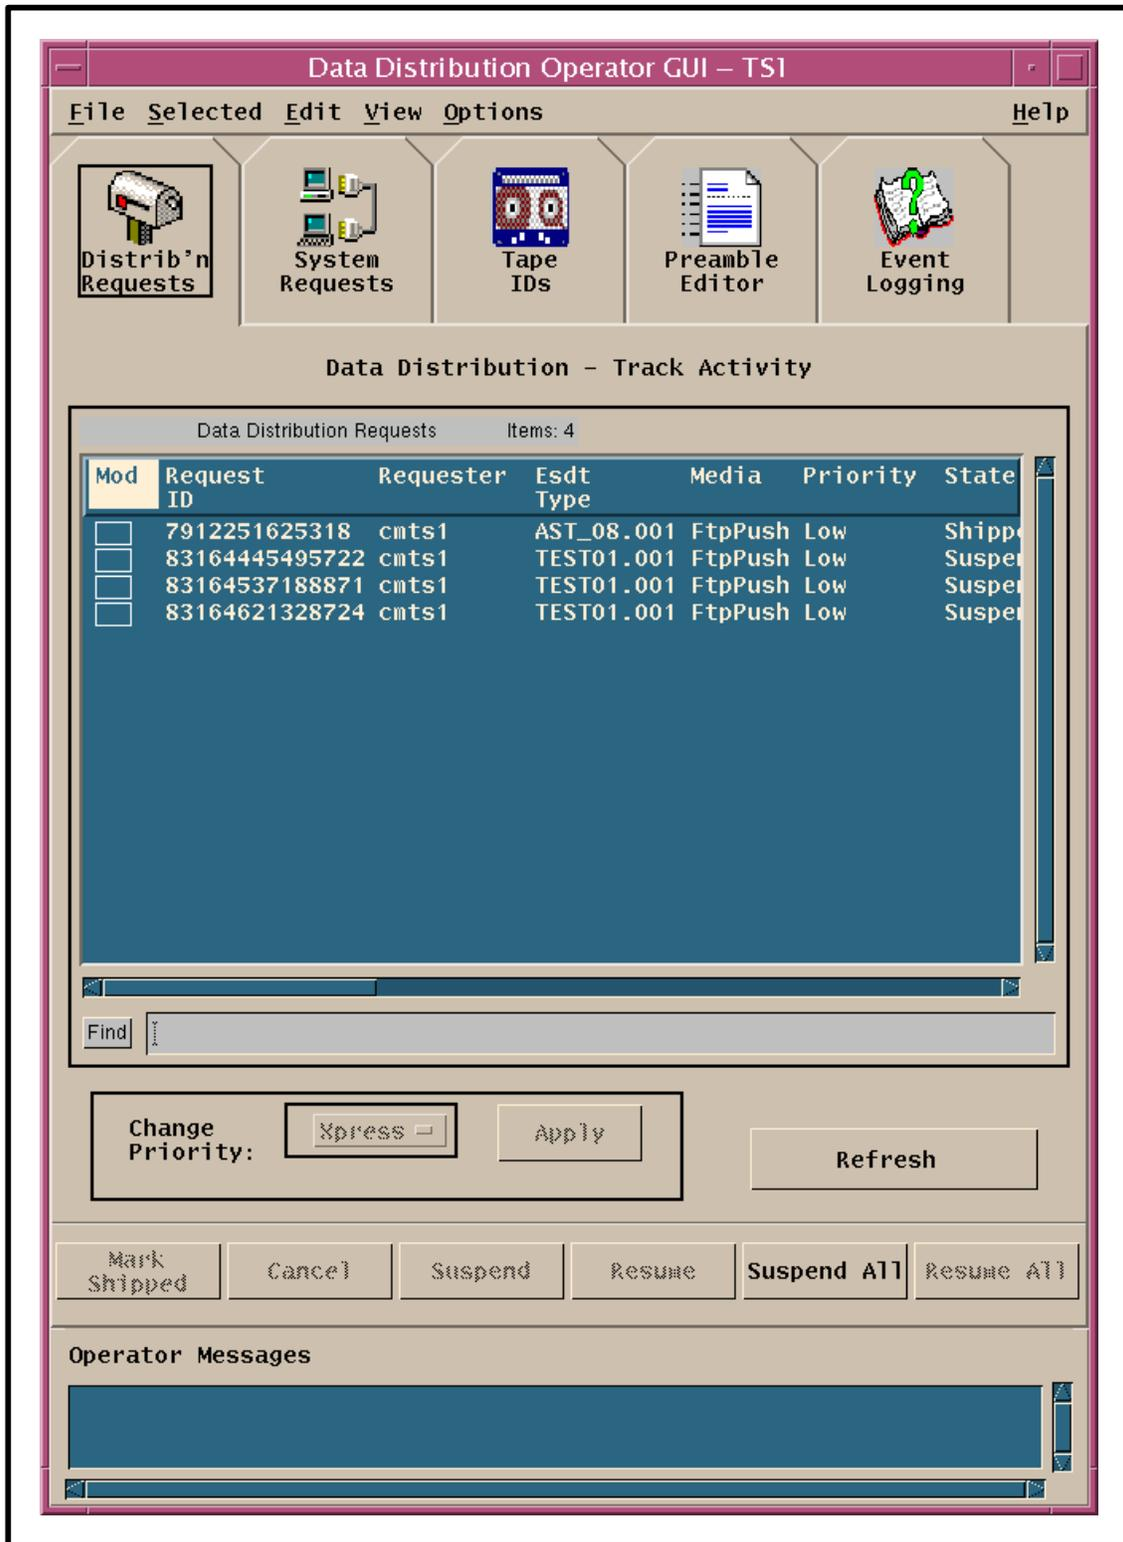

Figure 5. Distrib'n Requests Tab (Data Distribution Operator GUI)
- The **Data Distribution Operator GUI Distrib'n Requests** tab (Figure 5) is displayed.
The Ingest/Distribution Technician monitors and manages data distribution requests primarily via the **Data Distribution - Track Activity** window of the **Distrib'n Requests** tab (Figure 5) on the **Data Distribution Operator GUI**. From the **Data Distribution - Track Activity** window the DAAC Ingest/Distribution Technician can perform the following functions:
The procedure for monitoring data distribution requests starts with the assumption that all applicable servers and the **Data Distribution Operator GUI** are currently running and the **Distrib'n Requests** screen (Figure 5) is being displayed.
The procedure for configuring data distribution polling starts with the assumption that all applicable servers and the **Data Distribution Operator GUI** are currently running and the **Data Distribution - Track Activity** window (Figure 5) on the **Distrib'n Requests** tab is being displayed.
The distribution requests to be displayed in the **Data Distribution Requests** list (**Data Distribution - Track Activity** window shown in Figure 5) can be filtered using the **Distribution**
The procedure for filtering data distribution requests starts with the assumption that all applicable servers and the **Data Distribution Operator GUI** are currently running and the **Data Distribution - Track Activity** window (Figure 5) on the **Distrib'n Requests** tab is being displayed.